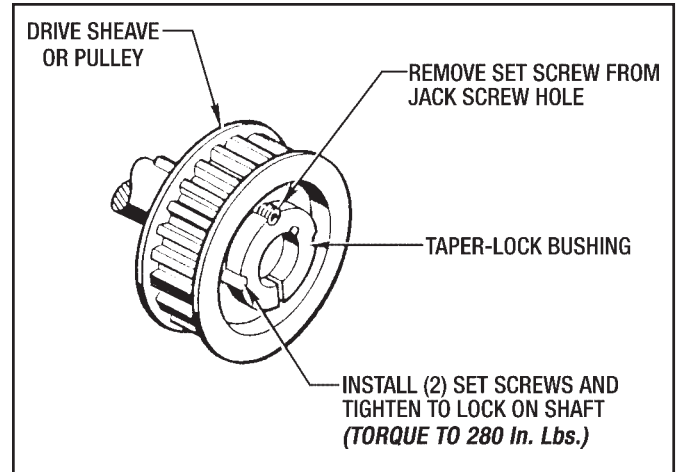

Figure 9.17 - Installing Drive Pulley
2. Assemble the Taper Lock Bushing and the Drive Sheaves or Pulley with the (2) Set Screws placed in the (2) Locking Holes.
3. Place assembled Drive Sheave or Pulley onto the Male Input Shaft as close as possible to the Drive Unit to minimize overhang shaft deflection. Tighten (2) Set Screws to lock it on the Input Shaft. (See Figure 9.17)